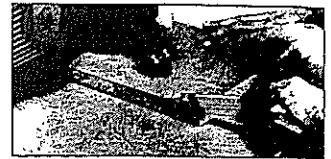
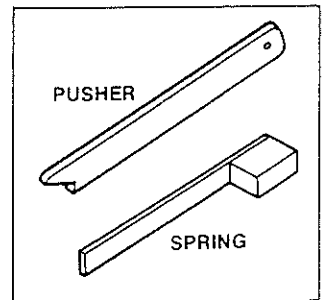

Fig. 33
Fig. 41
1. Use a notched "push-stick" (Fig. 33 and see drawing in Fig. 41) to feed the wood through the blade and hold it down at the same time, thereby keeping your hands at a safe distance from the blade.
IMPORTANT: Use a piece of waste wood as a pusher (Fig. 41) to make sure your hand keeps a safe distance from the knives.
- (ii) If wider rebates are required, then a Dado Head should be fitted (see separate instructions) but the guard used should be that intended for the Shaping Head. The operation, using the Dado Head in this way, is the same as with the Shaping Head (Fig. 44). Note the use of home-made wooden springs to help in ensuring the timber is held firmly against the fence while cutting progresses (see Fig. 41).